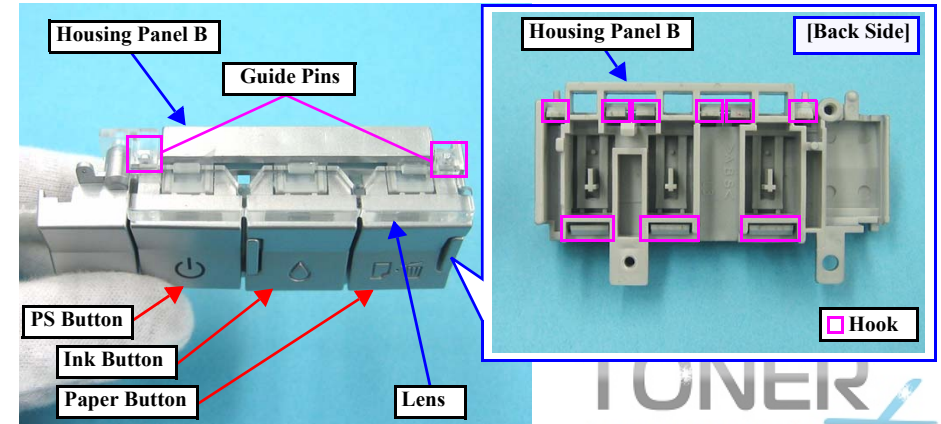

Figure 4-31. Removing the Panel Board / Buttons (4)
- Install the PS button, Ink button and Paper button as shown in Fig.4-31.